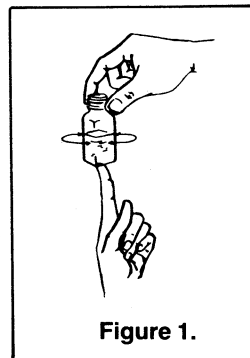

Figure 1.
2. Add the contents of one Chloride 2 Indicator Powder Pillow. Swirl to mix as shown in *Figure 1*.
2. Add the contents of one Chloride 2 Indicator Powder Pillow. Swirl to mix as shown in Figure 1.